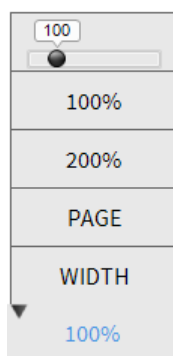

Fig 29
- Click the **Zoom** button. The following menu is displayed (Fig 29)